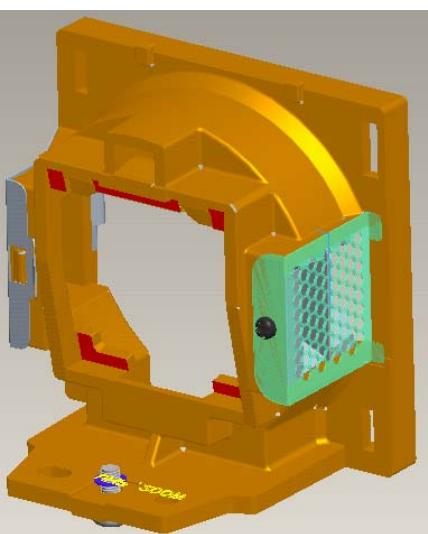

Fig. 1-4
- III. Assemble “FIN” with Lamp holder and fasten screw (Fig. 1-4).